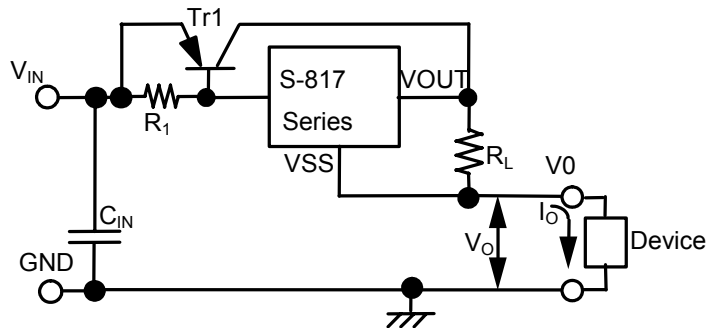

Figure 16
However, circuit (2) of **Figure 16** is an example to set constant amperage to the value exceeding the drive ability of the S-817. Circuit (2) incorporates a current boosting circuit. The maximum input voltage of the constant current circuit is the value obtained by adding 10 V to voltage of the device (V_O). It is not recommended to attach a capacitor between the S-817 power source V_{IN} and V_{SS} pin or between output V_{OUT} and V_{SS} pin because rush current flows at powering on. An example of input voltage between V_{IN} and V_O in circuit (2) vs. I_O current characteristics